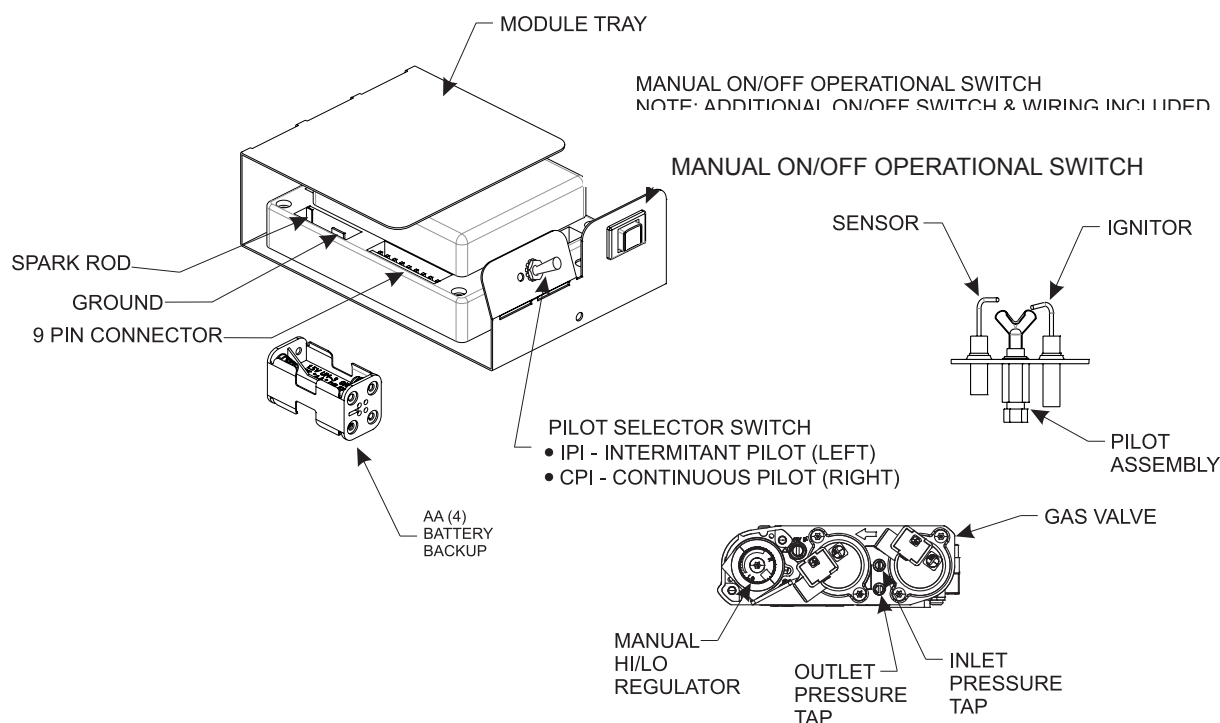

Figure 76
NOTICE: A small toggle switch is located on the front of the module tray that is used to switch from IPI (left) to the CPI (right). See Figure 76.
3. The gas valve has inlet and outlet pressure taps as shown in Figure 76. Refer to page 13 for gas pressure requirements.
To connect the remote receiver to the fireplace, first disconnect the ON/OFF switch wires from the white and green wire connectors and connect the wires from the remote receiver to the green and white wire connectors. See Figure 76.